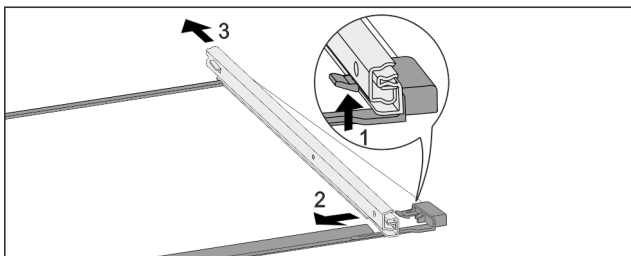

Fig. 131 Glass shelf with rails
- ▶ Push up front click-in hooks. Fig. 131 (1)
- ▶ Slide pull-out rails to the side Fig. 131 (2) and backwards Fig. 131 (3).